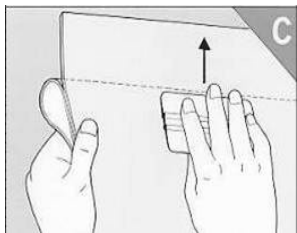

Figure 2.
5. Use care not to close off the Product's air release channels. Starting in the Product's center and using firm pressure, squeegee the Product, stroking toward the closest edge. Work across the Product to each outside edge. See Figure 2.